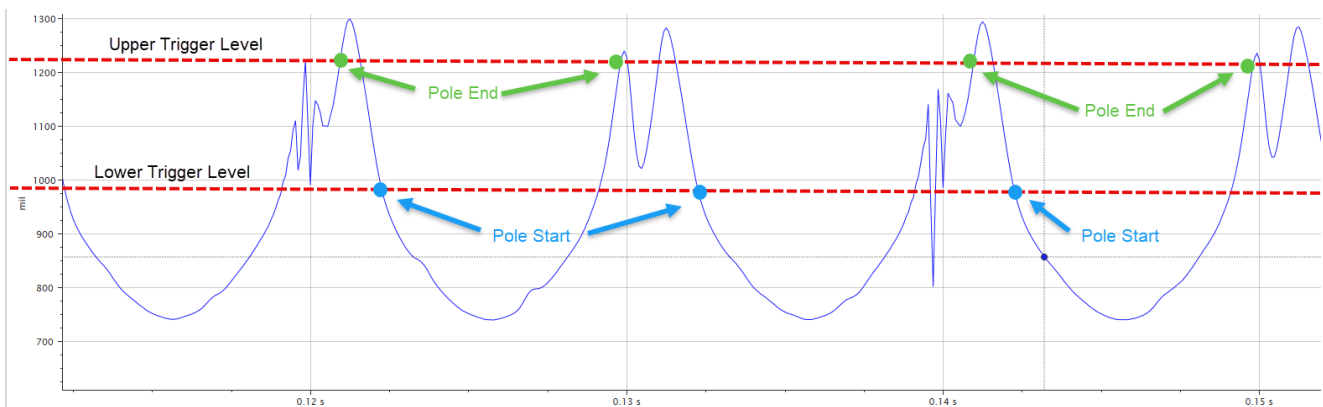

Figure 7-11) Selecting Trigger Levels
- Using a high-resolution asynchronous waveform, determine appropriate upper and lower trigger levels. Adjust levels so that noise in the gap between poles will not trigger phantom poles (see **Figure 7-11**). You will need to convert the displayed gap to a voltage using the sensor scale factor.